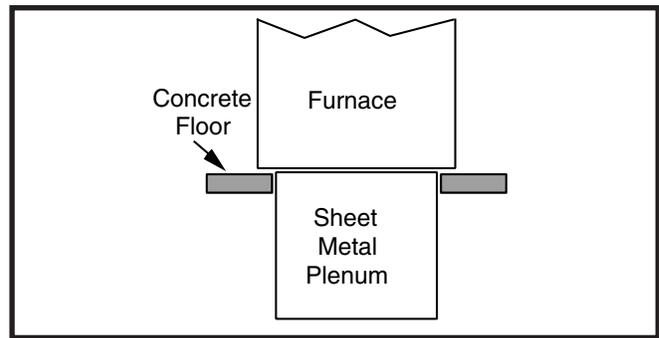

Figure 7. Furnace on a Concrete Slab
2. Position the plenum and the furnace as shown in Figure 7.